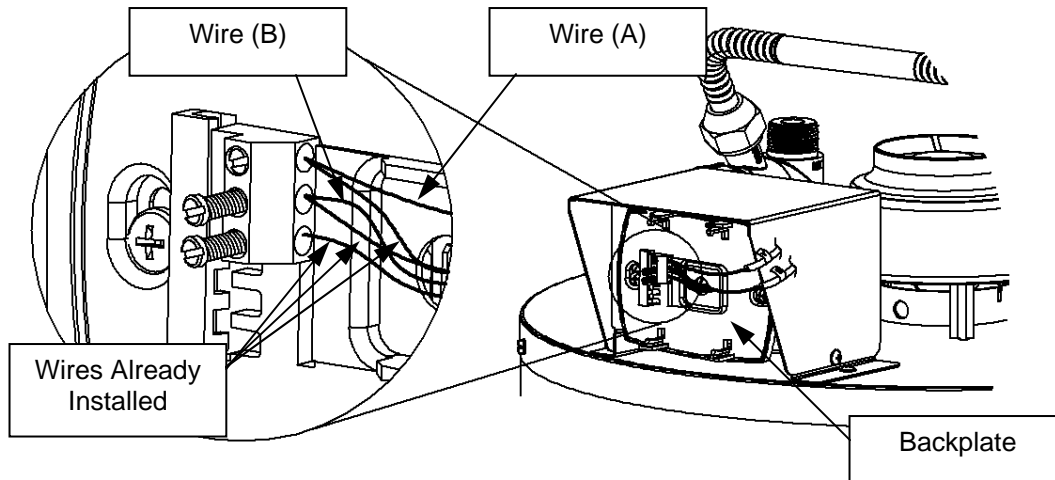

Figure 90
Step 9: Using wire (B), insert one end into the middle terminal location on the backplate (located on the Setback Control Junction Box Assembly). This is shown in Figure 90. Be sure that the wire already located in this location is not dislodged.